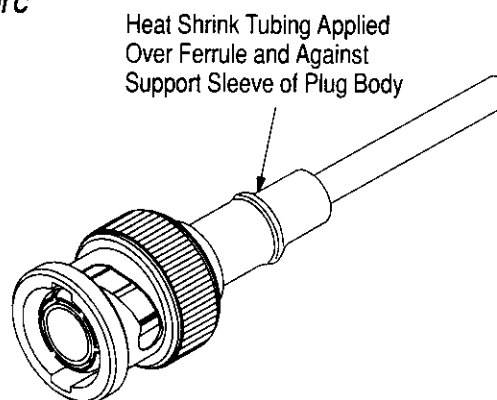

Figure 4
5. Insert contact assembly into plug body until it snaps into place. Make sure cable braid is positioned over the support sleeve of the plug body. See Figure 4, Detail A. Gently pull back on the cable to ensure that the contact is held in place by the internal locking feature of the plug body.
6. Slide ferrule forward over cable braid and plug body support sleeve; then crimp the ferrule using the tool frame assembly fitted with the appropriate die assembly. See Figure 4, Detail B.
7. Slide heat shrink tubing over ferrule until tubing is positioned against plug body support sleeve. Shrink tubing with an appropriate flameless heat source such as AMP Heat Gun 600655-2 or 606712-2. See Figure 4, Detail C.